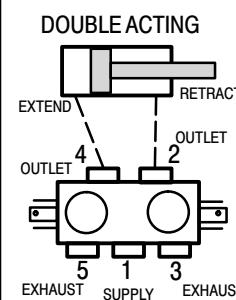

Figure 1
2. Outlet Ports #2 & #4 must be connected to a device (double acting cylinder, gauge etc.). #5 port is exhaust when #2 port is pressurized. #3 port is exhaust when #4 port is pressurized. Figure 1.